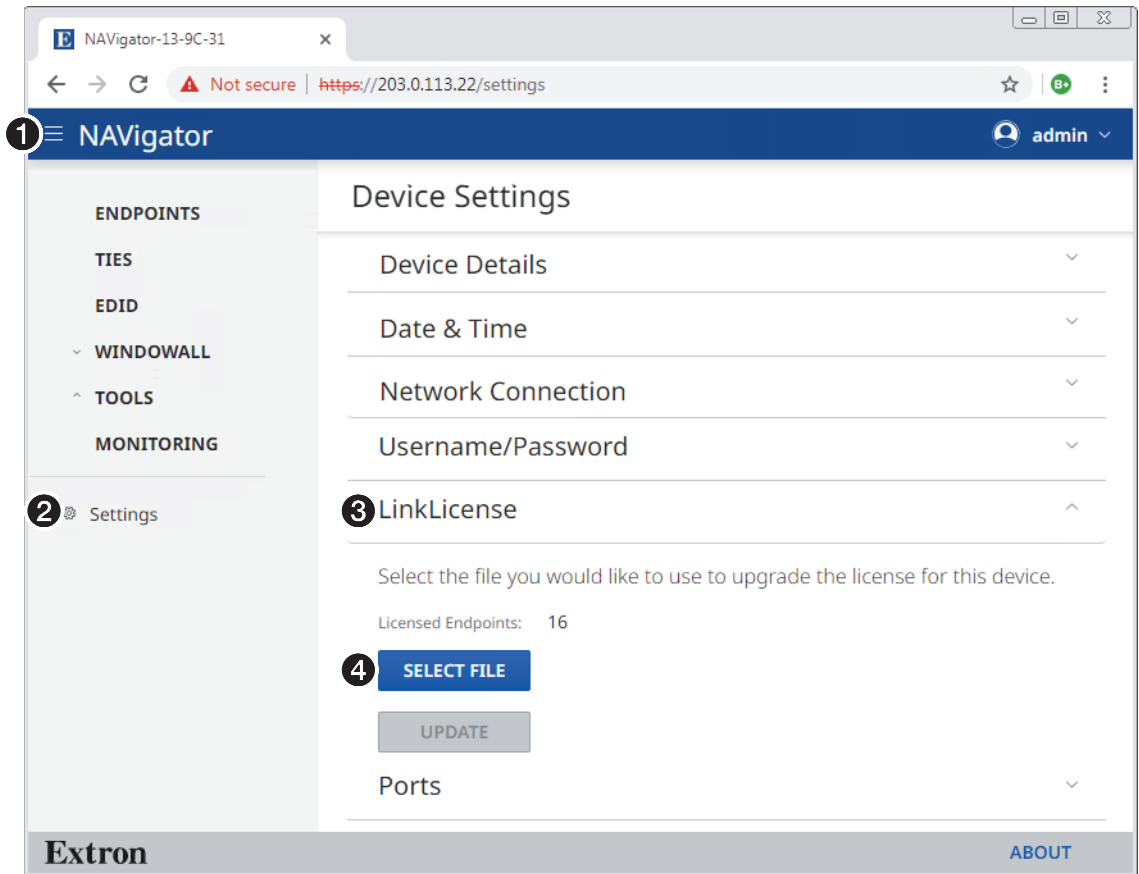

Figure 110. Opening the LinkLicense Page
1. If necessary, click the **Menu** icon (see figure 110, ❶).